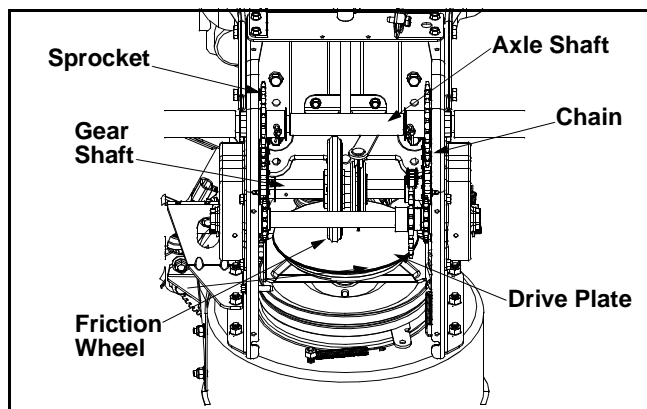

Figure 8
- With the traction control engaged, the friction wheel must contact the drive plate. See Figure 8.
Lubricate the gear shaft with 6-n-1 grease at least once a season or after every 25 hours of operation (available at automotive stores, or order part number 737-0170). Refer to Figure 8.
spray lubricant. **Avoid getting oil on the friction wheel rubber and aluminum drive plate.** Refer to Figure 8.